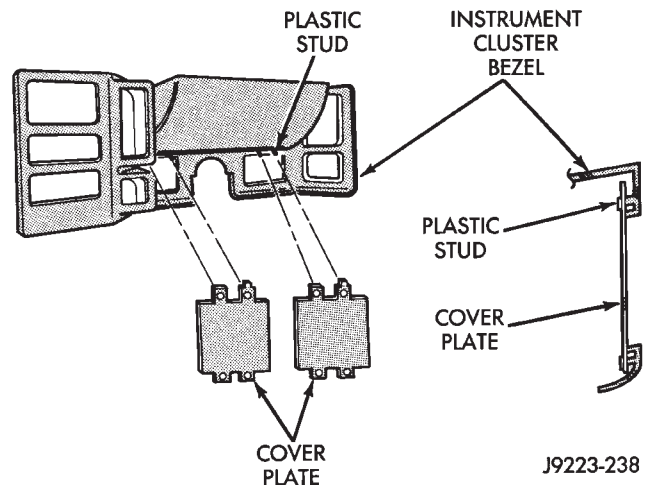

Fig. 2 Instrument Cluster Bezel Removal/Installation
(2) Separate the bezel from the U-clips and remove it from the upper section of the instrument panel.
(3) If necessary, remove or install rocker switch cover plates (Fig. 2).